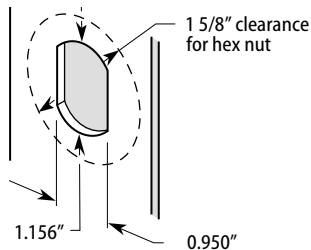

Figure 1 Fabricating the cylinder mounting hole
- Fabricate the mounting hole as shown in Figure 1. For more information, see the appropriate Installation Specification. For a complete list of Installation Specifications see the BEST web site www.BestAccess.com.